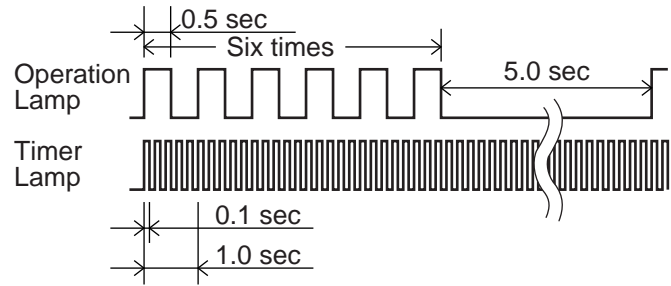

Fig.2
- * See Fig. 2 at the right.
- (1) Whether during operation or non-operation, when the room temperature thermistor or heat exchanger thermistor is opened or short-circuited, operation is immediately stopped and failure indication (see item (3) described below) is displayed.
- (2) If this function stops the operation, any operation instruction cannot resume the operation.
- (3) Failure indications stated in (1) are shown in the Fig.2.